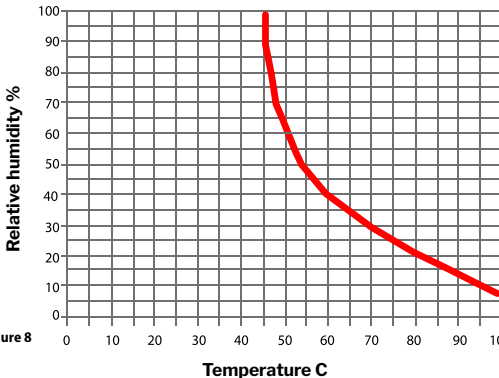

Figure 8
Relative humidity - define desired relative humidity (RH) between 5–60% (Fig.8) in the sauna room.
The approximate temperature/humidity limits are shown on the **Figure 8**.